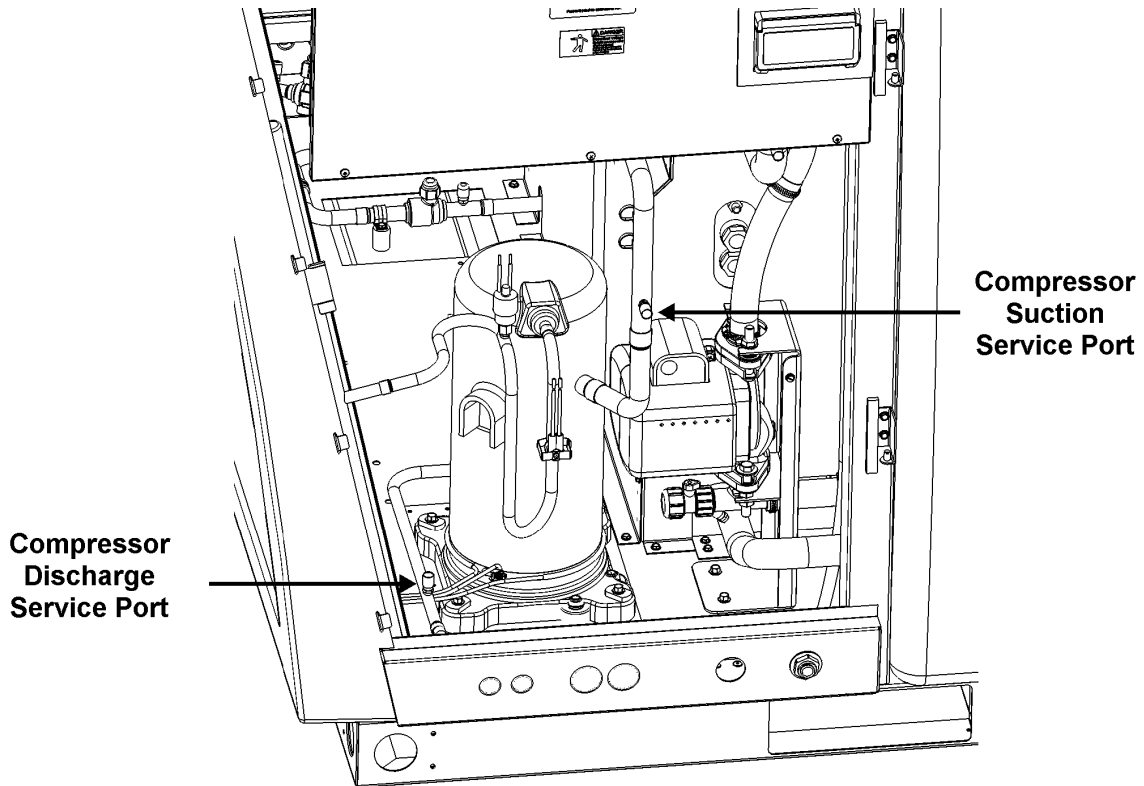

Figure 15 – Port Locations – Right Side
- access port on CONDENSER liquid service port (see Figure 15)
- access port on COMPRESSOR suction service port (see Figure 15)
- Use two (2) Schrader core remover tools to remove VALVE cores prior to attaching two (2) 3/8" (minimum), 36" length (maximum) evacuation hoses.
Recommended refrigerant charging locations: COMPRESSOR suction & COMPRESSOR discharge SERVICE PORTS (refer to Figure 15)